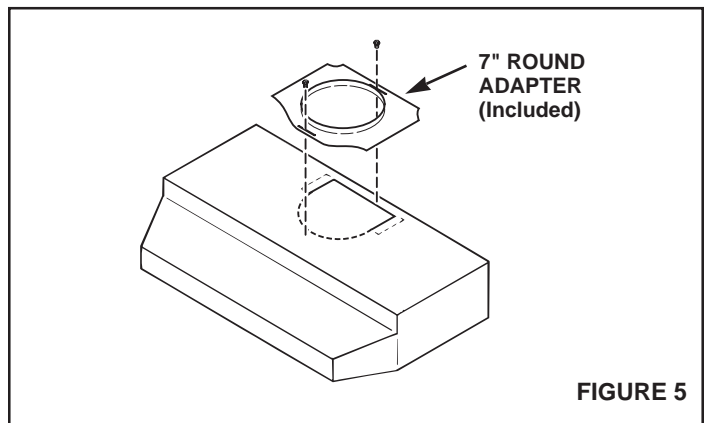

FIGURE 5
2. **For 7" round discharge installation, refer to FIGURE 5.** Secure 7" adapter (included) to top of hood using screws provided. Install 7" round damper (Model 895, purchased separately).